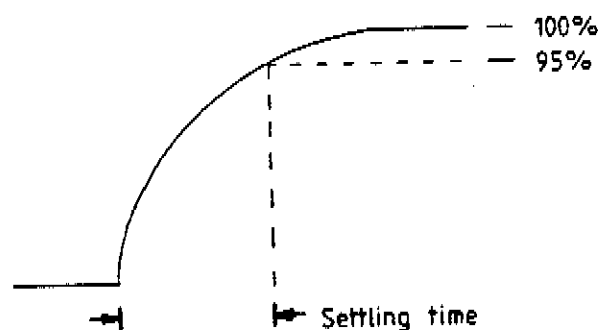

Figure 4-14(B) Example of correct High Level Control settling time.
7. Verify that the scope display indicates a settling time of less than 200us as indicated in Fig. 4-14(B).